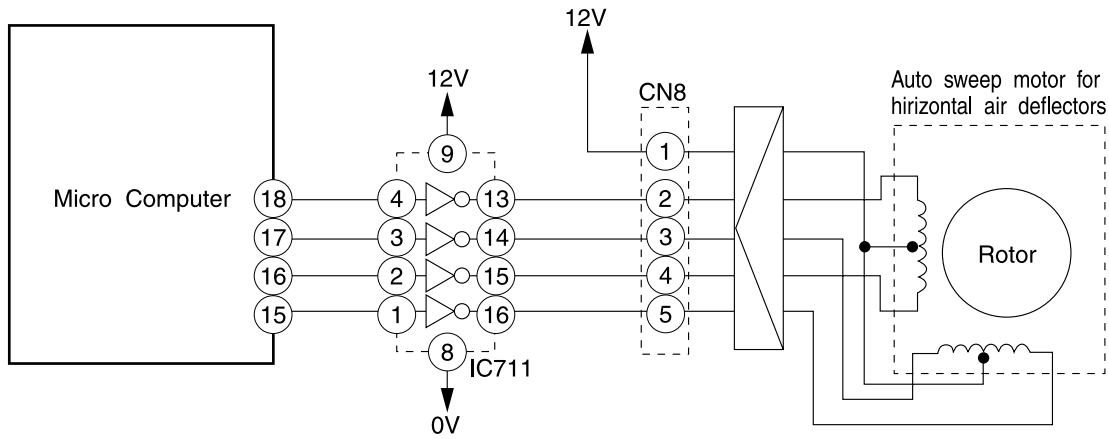
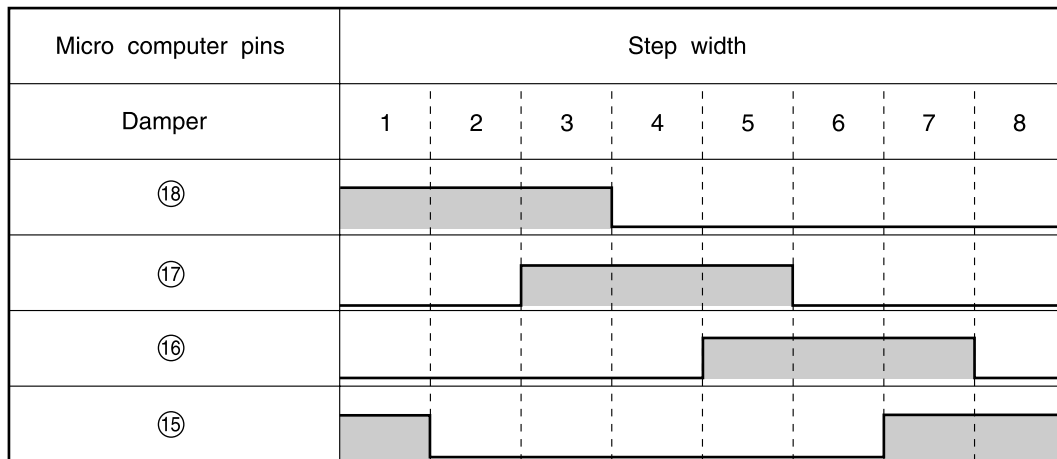

Fig.4-1 Auto Sweep Motor Circuit (Horizontal air deflectors)
Fig.4-2 Micro computer Output Signals
- Fig.4-1 shows the Auto sweep Motor drive circuit; the signals shown in Fig.4-2 are output from pins ⑮-⑱ of the micro computer.
- As the micro computer's outputs change as shown in Fig.4-2, the core of the stepping motor is excited to turn the rotor. Table 4-1 shows the rotation angle of horizontal air deflectors.